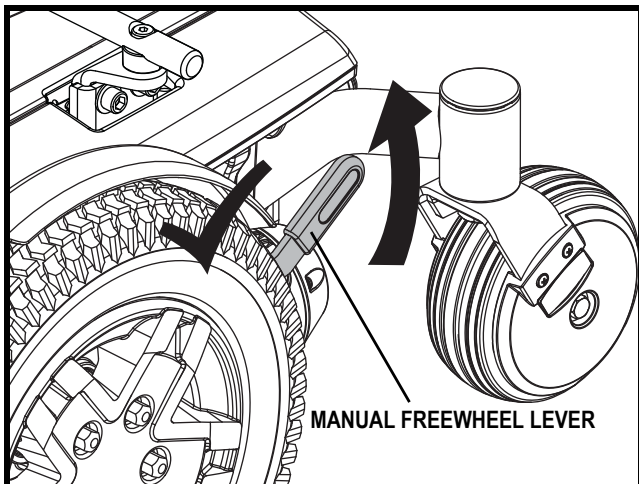

Figure 5A. Drive Mode (Left Drive Motor Engaged)
2. Pull up both manual freewheel levers for drive mode (drive motor engaged). See figures 5A and 5B.